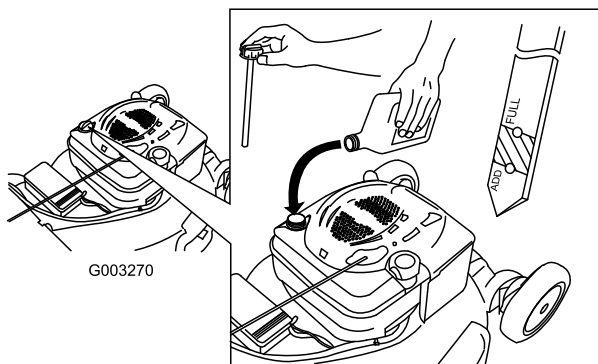

Figure 37
4. **Slowly** pour oil into the oil fill tube until the oil level reaches the **Full** line on the dipstick (Figure 37). Wait 3 minutes after adding oil to check the oil level with the dipstick. **Do not overfill.** (Max. fill: 20 oz. (0.59 l), type: SAE 30 detergent oil with an API service classification of SF, SG, SH, SJ, SL, or higher.)